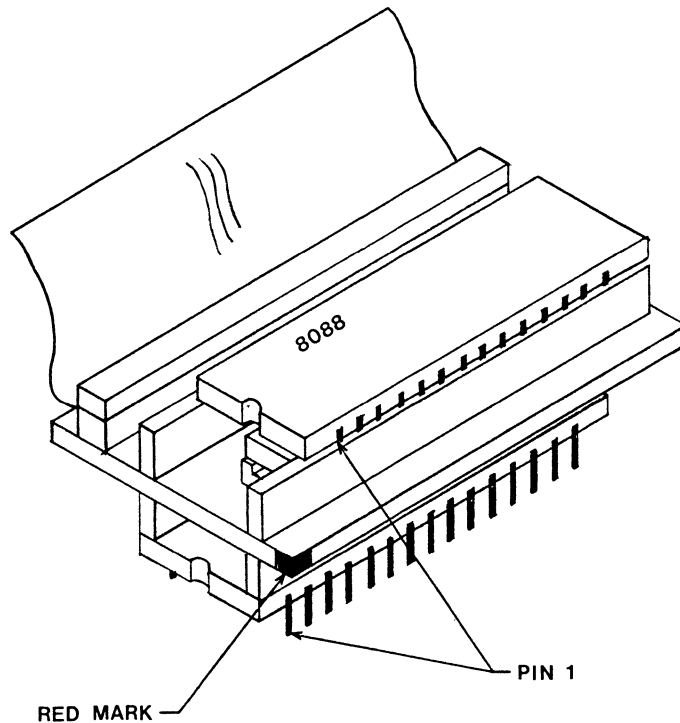

Figure 1-3. PROBE Plug
3. Insert the 8088 into the socket provided on the PROBE plug (Figure 1-3). Ensure that PIN 1 of the 8088 matches the red mark on the PROBE plug. If this is not done, damage will occur to the 8088 when power is applied.